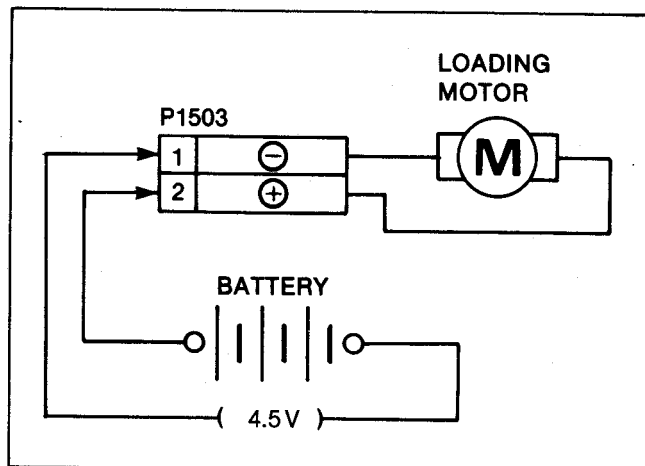

Fig. S8
- 1) Connect the battery (Manganes-Type R6 (AA) 3pcs./+4.5V) to P1503 as shown in Fig. S8.